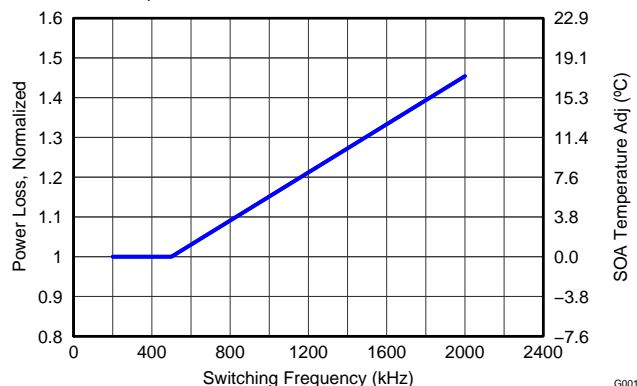

Figure 12. Normalized Power Loss vs Frequency
- Normalized Power Loss for switching frequency ≈ 1.09 (Figure 12)
- SOA adjustment for switching frequency $\approx 3.4^{\circ}C$ (Figure 12)